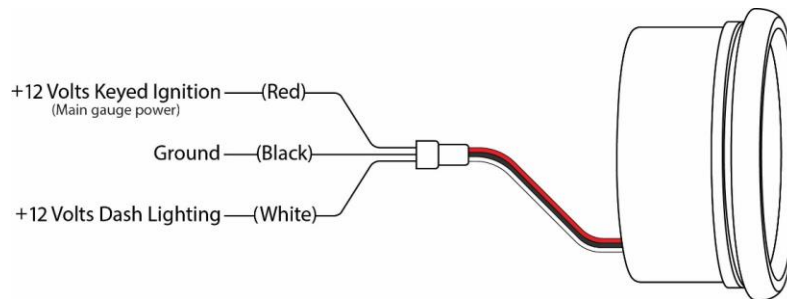

Figure 1
Figure 1 shows the gauge power, ground, and lighting wiring diagram.
3. Install the power, ground, and lighting wires as shown in **Figure 1**. Harness P/N 553-140 (available separately) allows you to unplug and discard the pigtails included with each gauge and connect up to 8 gauges together. This configuration makes it easy when multiple gauges are installed together, allowing the loose power, ground, and lighting wires to only be connected once.